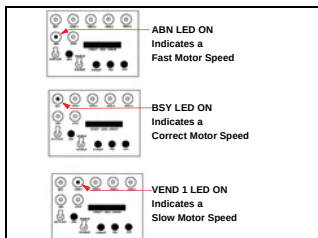

Figure A-5 EBA Test #1 & 2 LED Indications
4. Put DS-1, Switch #1 in the OFF position. The BSY light will go out. The motor will rotate in a forward direction. One of three lights on the VM-450 will indicate the motor speed (See Figure A-5).
described lights on the VM-450 will indicate the motor speed rate (Review Figure A-5).